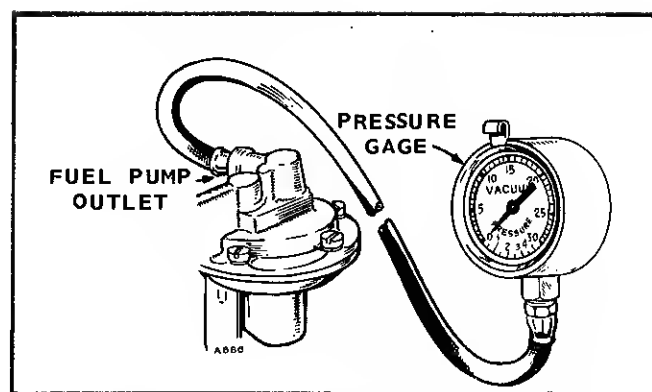

FIGURE 7. CHECKING FUEL PUMP PRESSURE
**Testing:** If the fuel pump delivers fuel, test it with a pressure gauge or manometer. Perform these tests before removing the pump from the engine. Disconnect the pump outlet line and install the pressure gauge (Fig. 7).